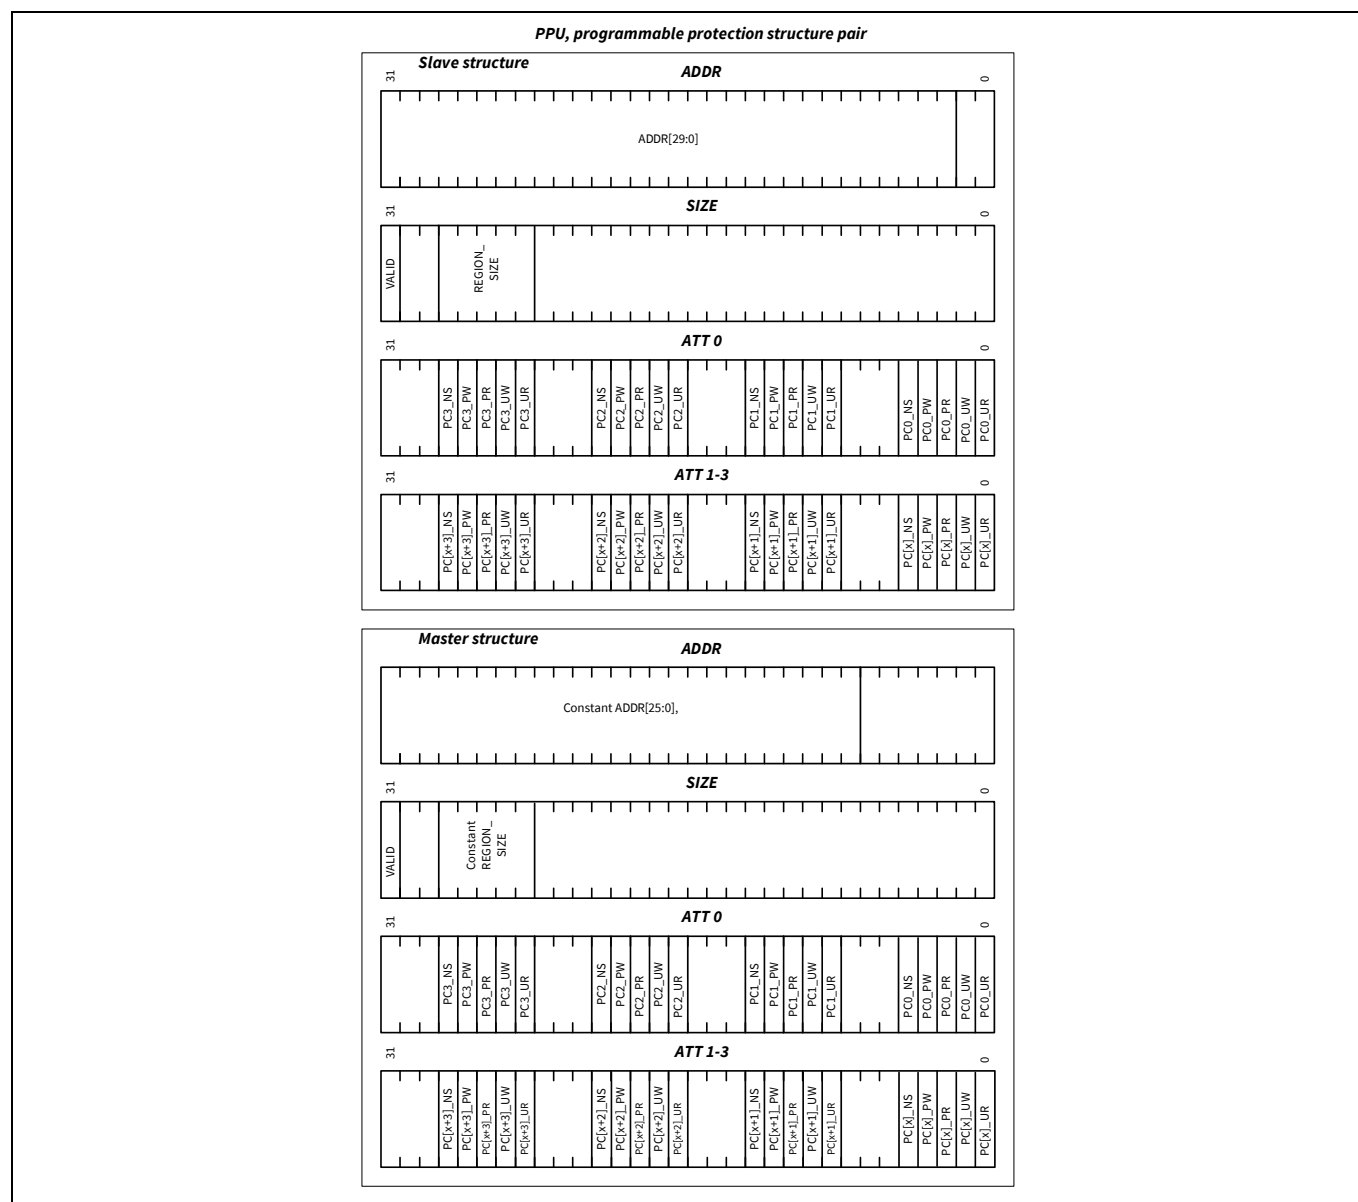
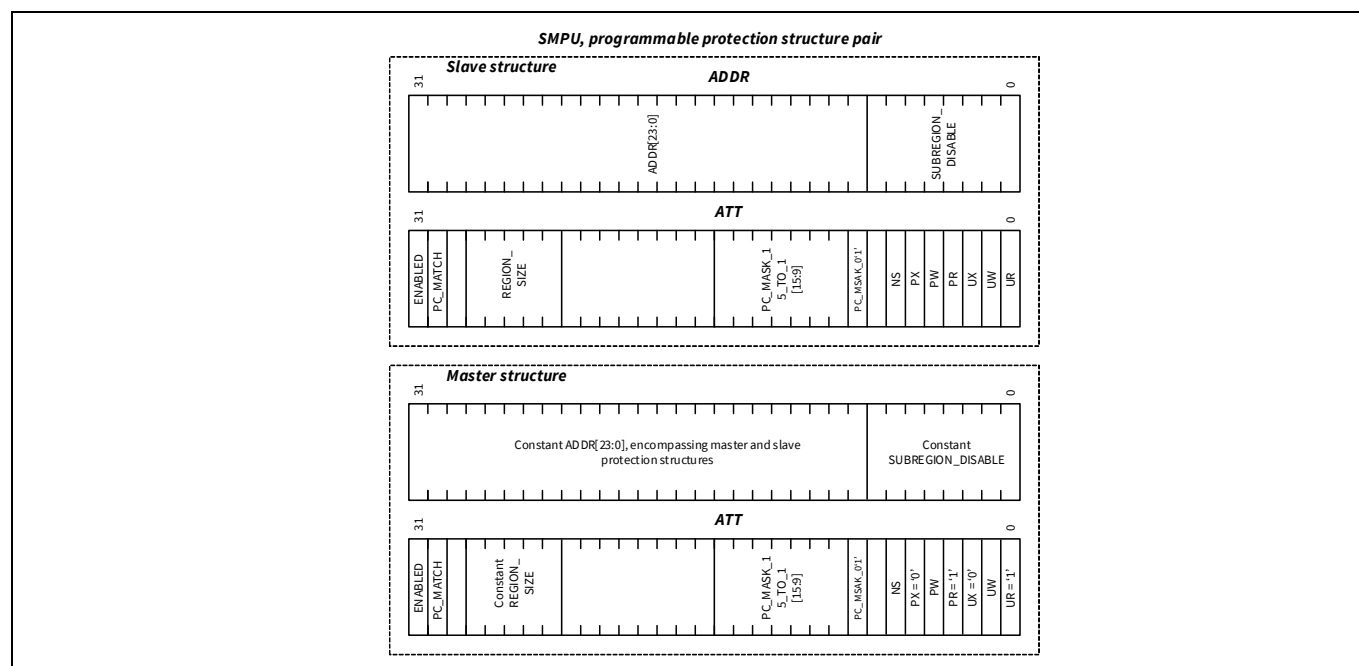

Figure 6-7. PPU programmable protection structure pair
Figure 6-8. SMPU programmable protection structure pair
- Programmable protection structure pairs. These structures are used by the PPU and SMPU. The master structure has a fixed, constant address region. The slave structure has a programmable address region. The SMPU master structure has the ATT.UX and ATT.PX attributes as constant '0' (execution is never allowed) and the ATT.UR and ATT.PR attributes as constant '1' (reading is always allowed). The Both PPU structures do not have ATT.UX and ATT.PX attributes. In addition, PC0 is permitted with all access attributes (PC0 has unrestricted access). The PPU master structure has the ATT.UR and ATT.PR attributes as constant '1' (reading is always allowed). See Figure 6-7 and Figure 6-8.